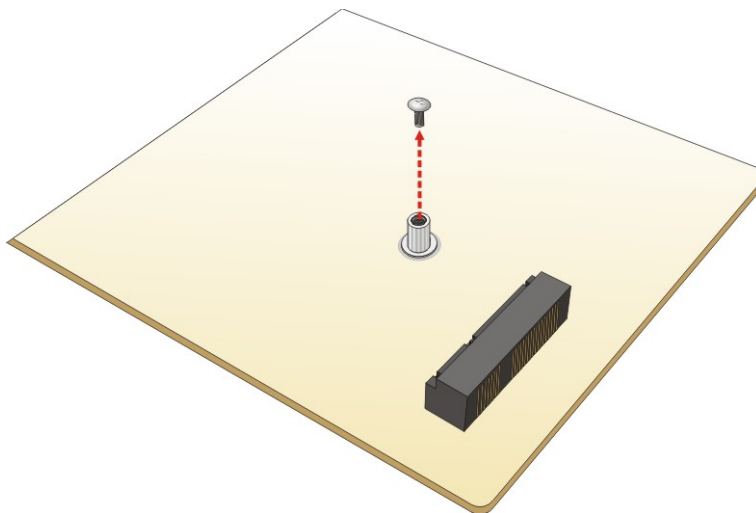

Figure 3-9: Removing the Retention Screw
Step 3: Remove the retention screw as shown in Figure 3-9.